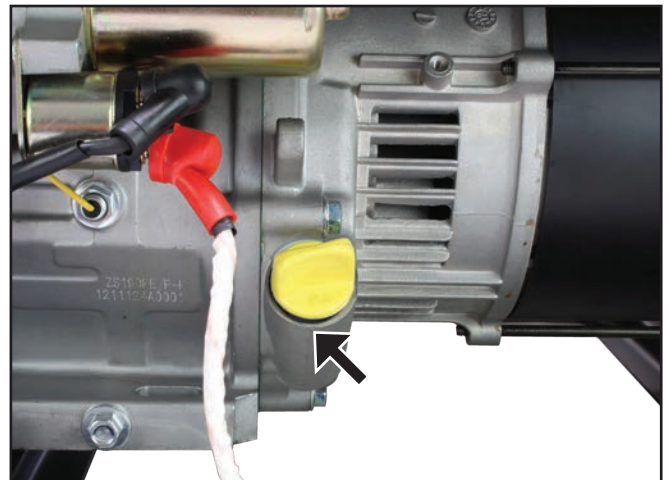

Figure 30 – Oil Fill Plug/Dipstick
5. Remove oil fill plug/dipstick by unscrewing it anti-clockwise (see Figure 30).